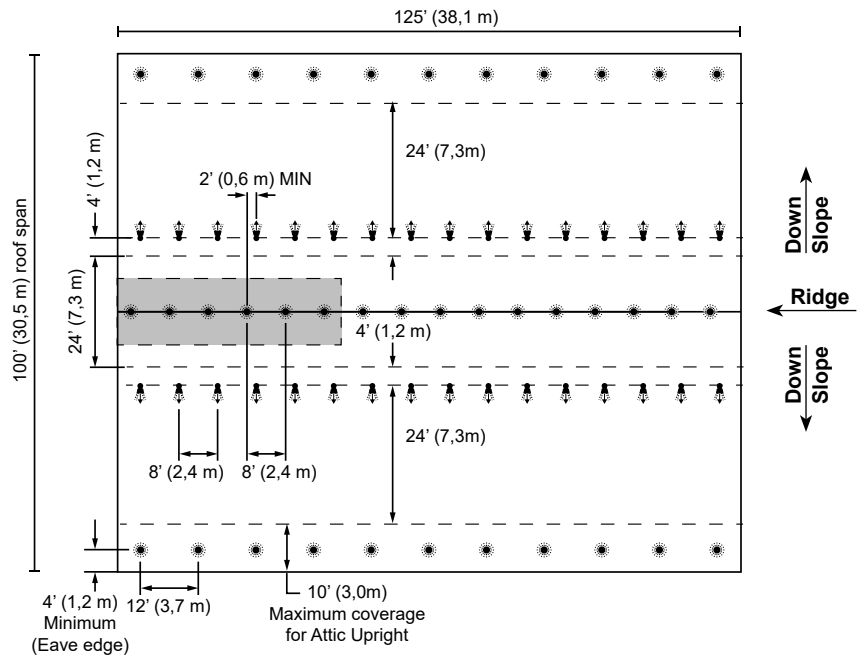

Figure 16A: Dry System Design for 100 ft (30,5 m) Roof Span
1. Figure 16A - Calculate the 6 most demanding VK697 Ridge Sprinklers. Down slope V-EP Sprinklers staggered arrangement. Continue to #2 below.